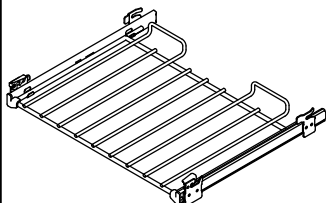

Fig.2-23
- 1 set of side supports (**Fig.2-23**)